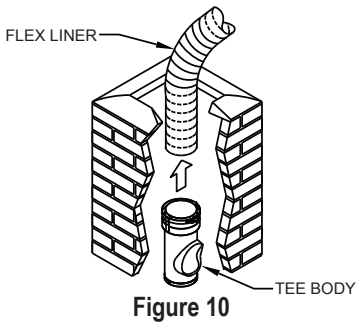

Figure 10
Step 2. If the masonry has an offset, pull the Flex down as described in **Step 4** of the previous section so the end is even with the opening in the chimney wall. Disconnect the Flex Puller. Attach the Tee Cap to the bottom of the Tee (if not already attached), remove the Tee Branch, and attach the Tee to the Flex Liner (**Figure 10**).